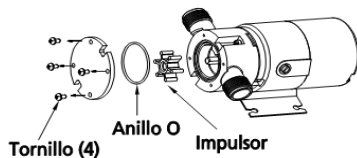

Figura 3 – Desmontaje
1. Remove the 4 body screws, the O-Ring, and the impeller (Ver Figura 3).